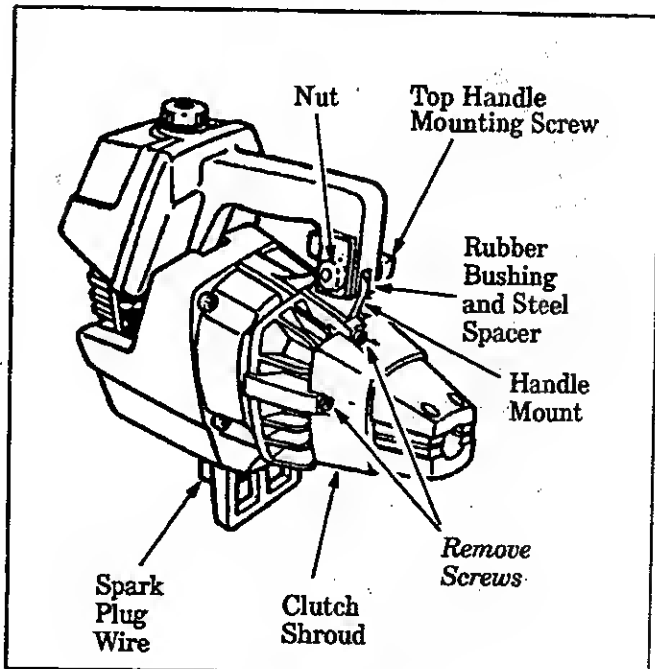

Figure 26
1. Disconnect Spark Plug Wire. Figure 26.
2. Remove the Top Handle Mounting Screw and Nut, and remove the steel Spacer from the Rubber Bushing on the Handle Mount. Figure 26.
3. Remove the four clutch shroud screws with the small hex wrench provided. Figure 26.
4. Separate the Clutch Shroud from the Engine. Figure 26.